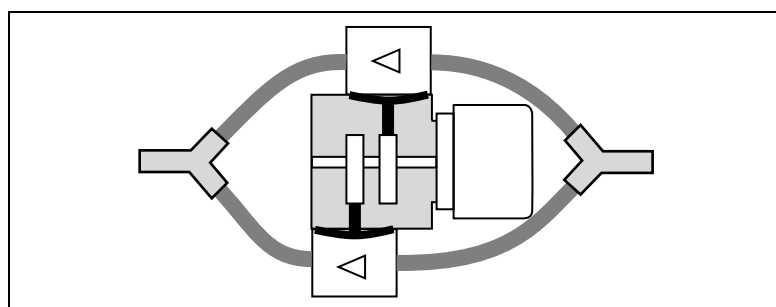

Fig. 9: NFB hose configuration for low pulsation
- ➔ Configure pump head hoses in parallel (see Fig. 9).